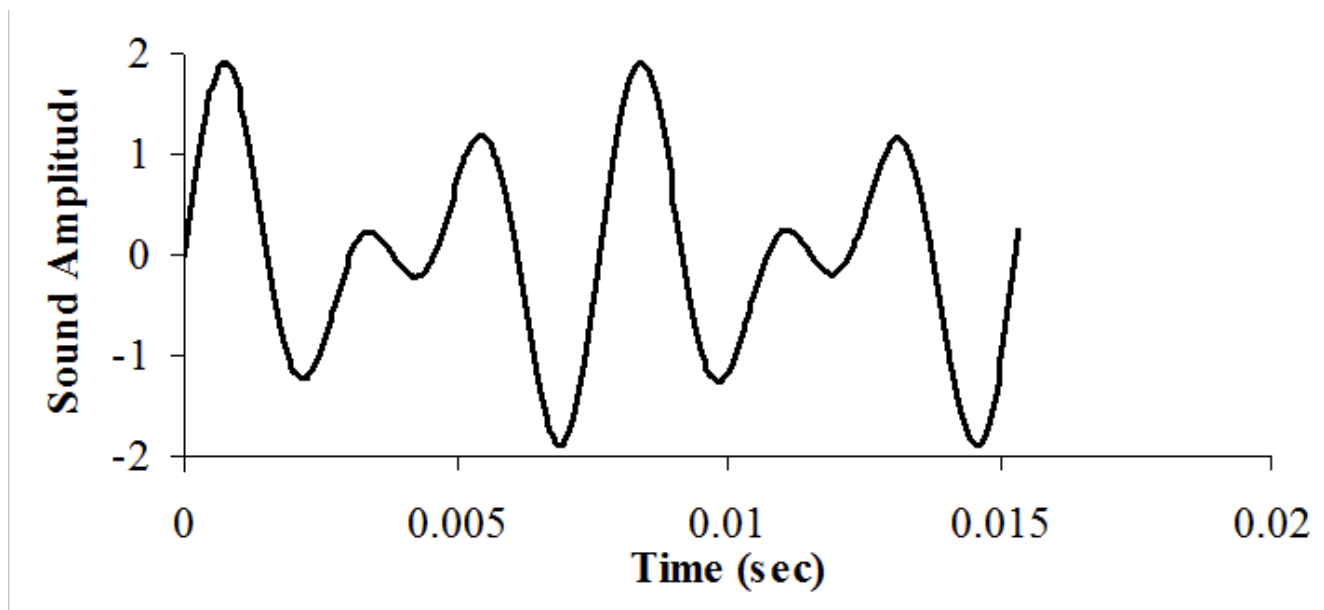

Figure 13.12. A simple chord mixing the notes C and G.
A **chord** is created by playing multiple notes simultaneously. When two piano keys are struck simultaneously both notes are created, and the sounds are mixed arithmetically. You can create the same effect by adding two waves together in software, before sending the wave to the DAC. Figure 13.12 plots the mathematical addition of a 262 Hz (low C) and a 392 Hz sine wave (G), creating a simple chord.